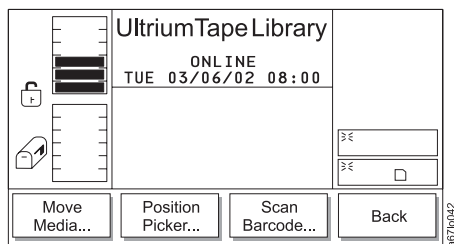

Figure 4-72. Move Submenu
2. Press the button below the **Move** softkey. The Move Submenu displays (see Figure 4-72).
8. To return to the Move Submenu (see Figure 4-72 on page 4-43), press the button below the **OK** softkey. To return to the Main Menu press the button below the **OK** softkey, then press the button below the **Back** softkey until the Main Menu displays.